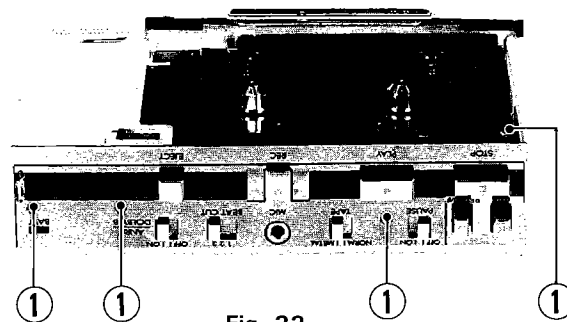

Fig. 22
A. Removal of top cover (Fig. 22)
1. Open the cassette holder, remove 4 screws ① SPSH1740N, then remove the top cover.